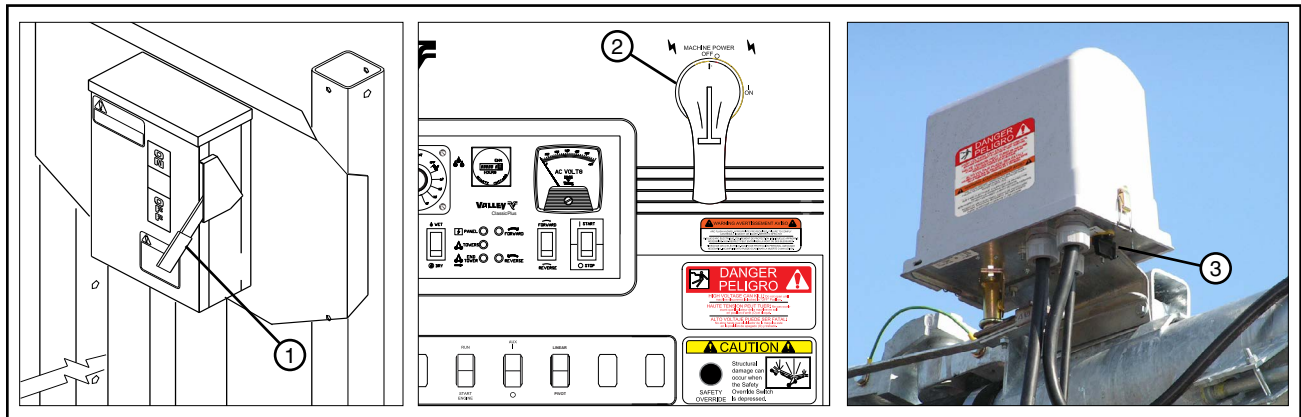

Figure 27-1 1. Main Service Disconnect Switch
- Main Service Disconnect Switch from public power to the control panel. See Figure 27-1.
- Control Panel Main Disconnect Switch. See Figure 27-1.
- Any Tower Box Disconnect Switch. See Figure 27-1.